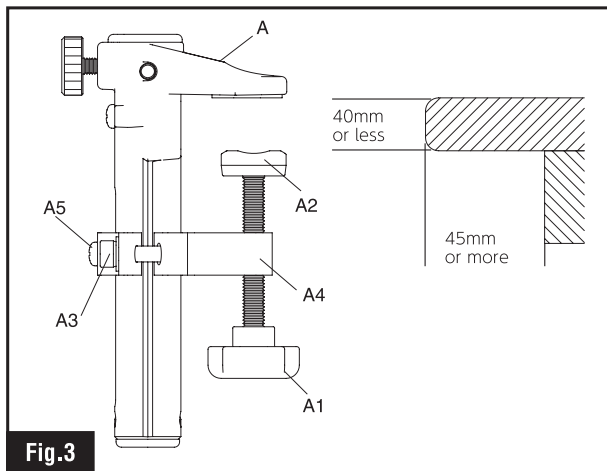
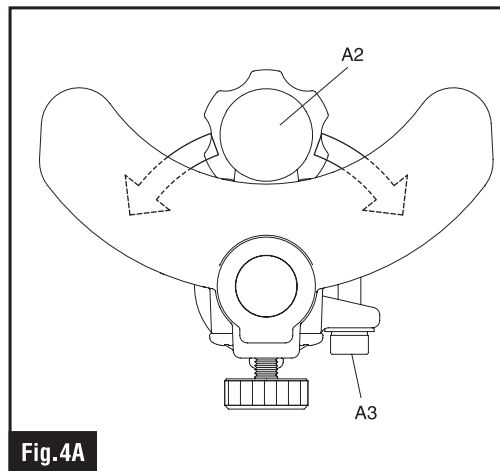
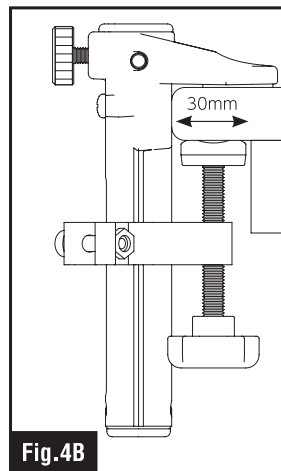

Fig.3
Fig.4A
Fig.4B
Recommended desk dimensions shown in Fig.3.
- When attaching the clamp to a desktop 40 mm or thicker, loosen the clamp fixing bolt (Fig.3, A3) with the supplied hex wrench. Then, lower the movable clamp (Fig.3, A4) to the appropriate position, adjust the opening width and fix the clamp in place. In its widest position, the clamp can be attached to a desktop up to 90mm thick.
- If the distance from the desktop edge to the frame is 30mm or more, the lower pad position can be adjusted by removing the Phillips screw (Fig.3, A5), loosening the clamp fixing bolt (A3), and rotating pad section (A2) to the left or right as needed (see Figure 4A & Figure 4B).